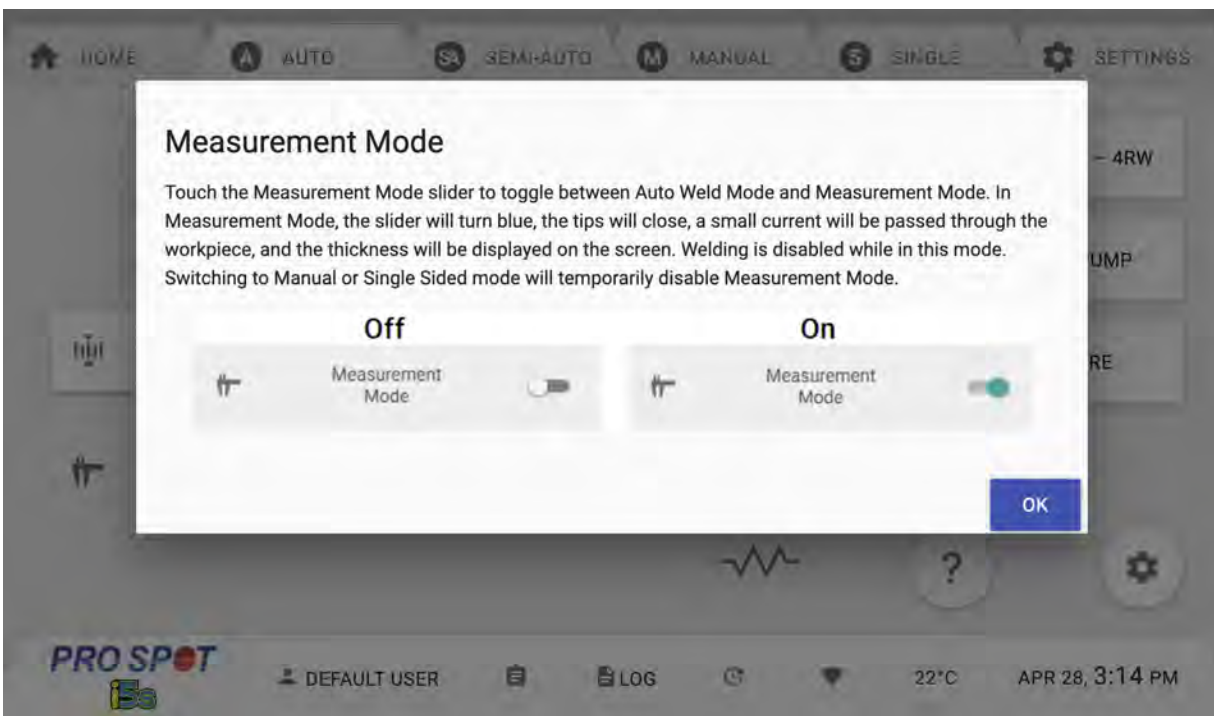

Figure 5.2
5. Measurement Mode - This slider toggles the welder between Auto Weld Mode and Measurement Mode. The slider in the Figure 5.2 is in Auto Weld Mode. When pressed, it will slide to the right and turn green. A message will show up on the screen notifying the user that they are now in Measurement Mode. Measurement mode applies a small current through the workpiece allowing the machine to measure the thickness without welding. To return to Auto Weld Mode, simply press the slider again.
The user can also access the Auto Mode screen to select Measurement Only Mode, which measures the steel thickness and resistance without welding (Figure 5.2).